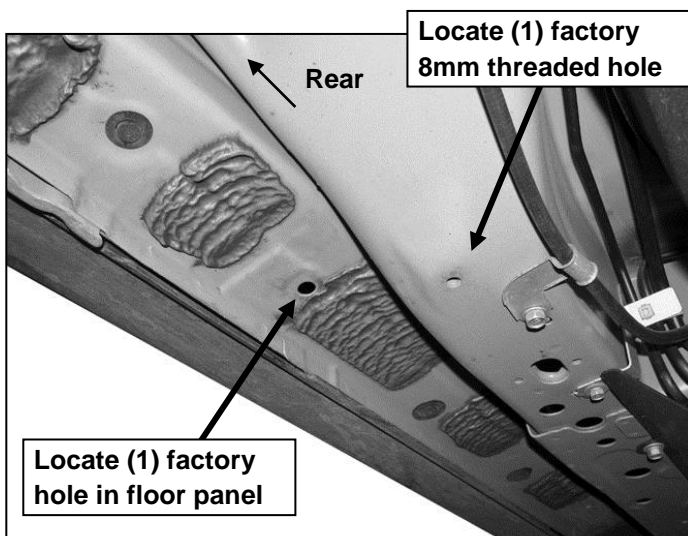

**Fig 7**
(2) 10mm Hex Nuts
5. Next, move to the center of the vehicle and locate the (2) 8mm threaded holes located on the bottom of the floor panel and bottom of the frame channel, **(Figure 6)**. Select the driver side Center Mounting Bracket, **(Figure 7)**. **IMPORTANT:** Center and Rear Brackets are similar but unique. To help identify, the Center Brackets feature a notch cut out of the inner end of the Bracket, **(Figure 7)**. Attach the Center Bracket to the two threaded holes using the provided (2) 8mm x 25mm Hex Bolts, (2) 8mm Lock Washers and (2) 8mm Flat Washers, **(Figure 8)**. Snug but do not tighten hardware at this time.